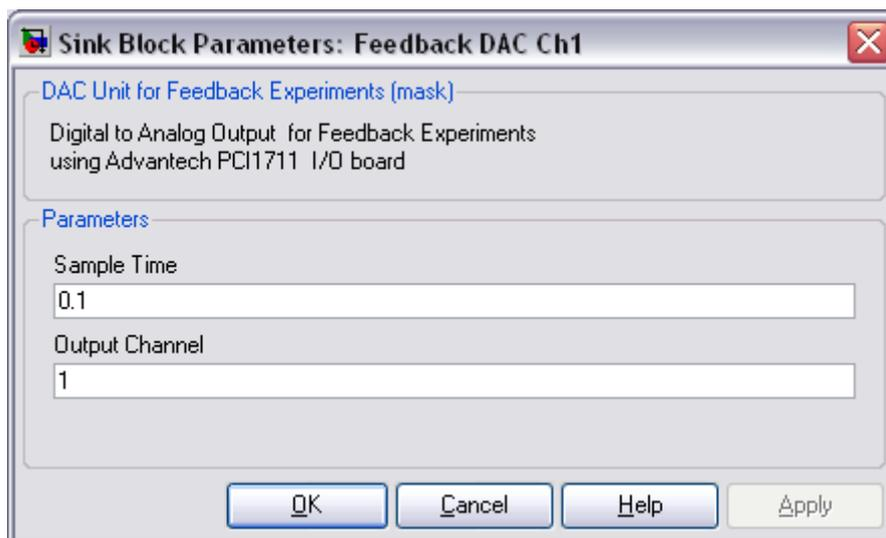

Figure 38 Feedback DAC Block – parameters
- By double clicking on this block we can change the above parameters (Figure 38).